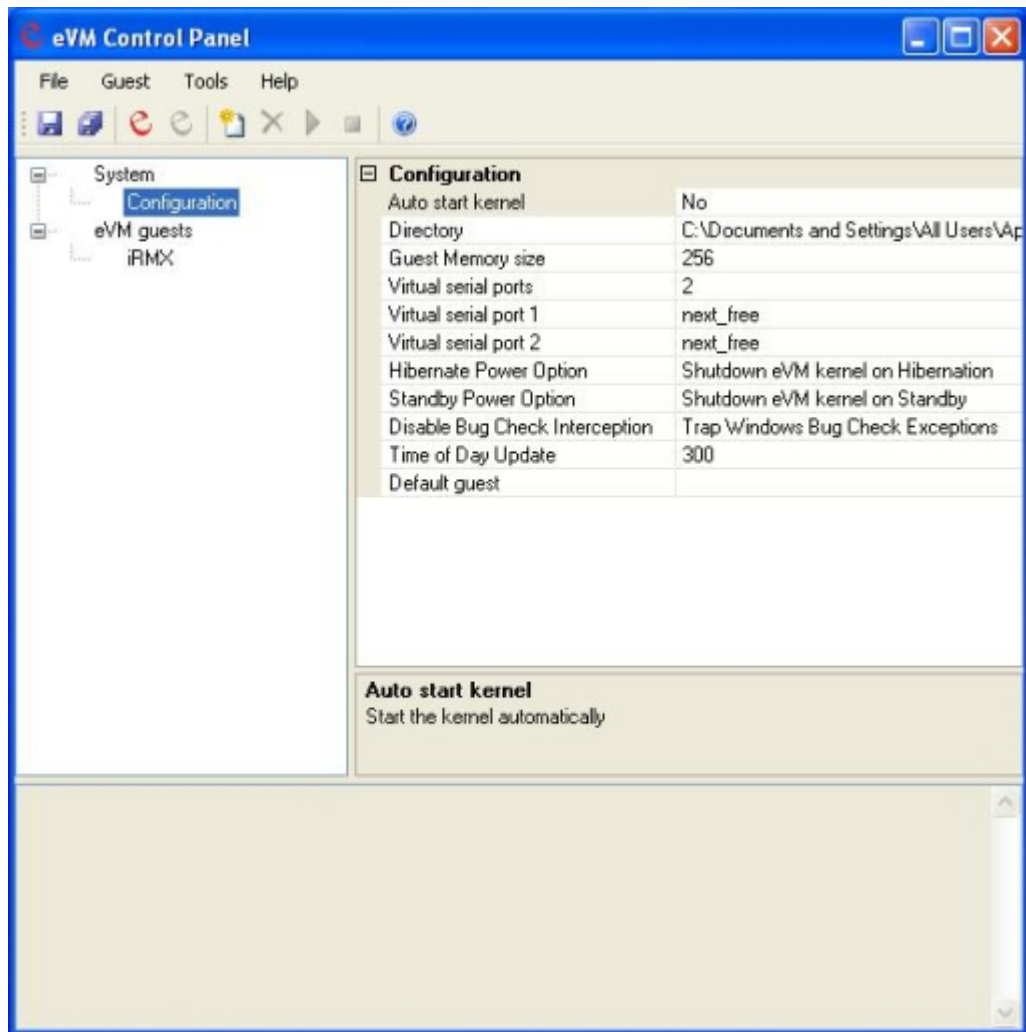
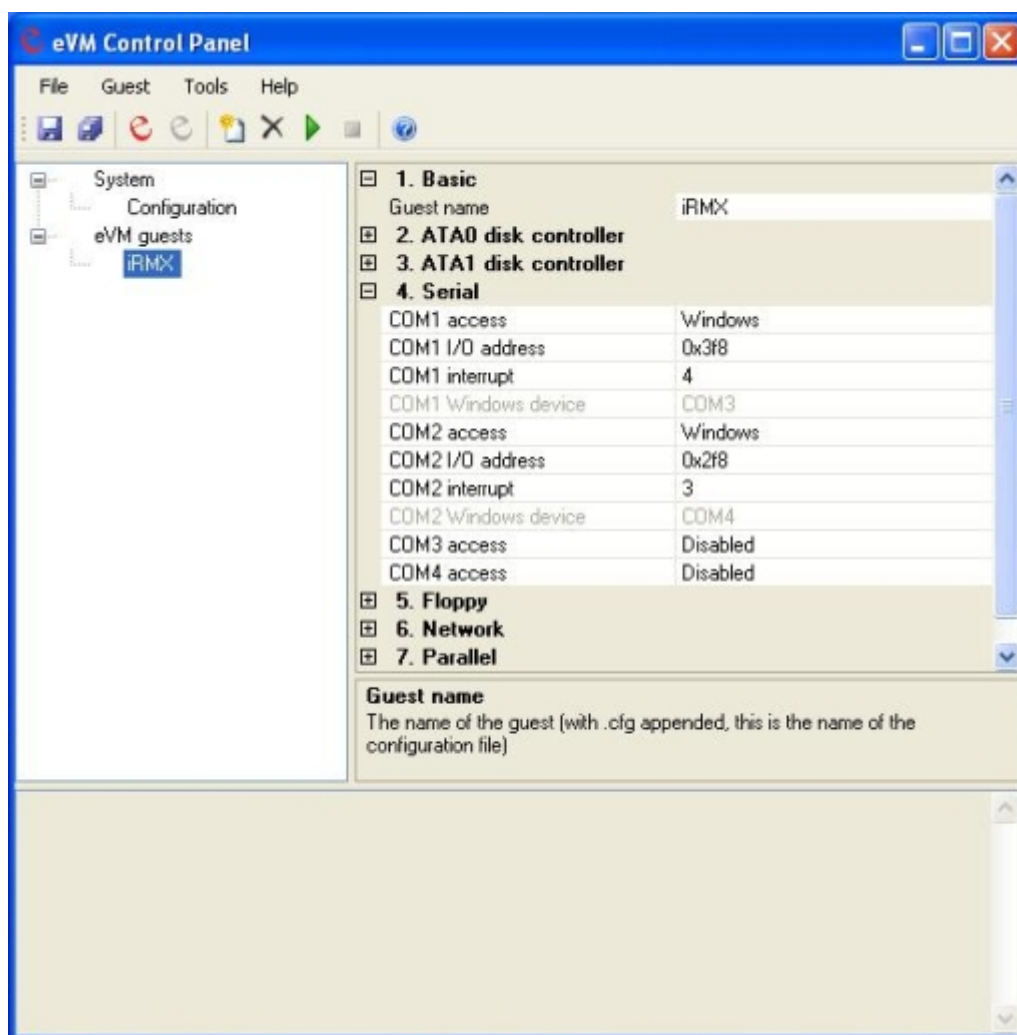

Figure F. 31 - Complete eVM Installation Showing System Configuration
Figure F. 32 - Complete eVM Installation Showing iRMX Guest Configuration
30. When the eVM Control Panel launches, if you chose the *Standard Installation*, you will see the system configuration and no eVM guests installed. If you chose the *Complete Installation*, not only has eVM been installed with the 2 virtual serial ports, Figure F. 31, but also has the sample guest RTOS, iRMX, complete with a sample configuration been installed, Figure F. 32.